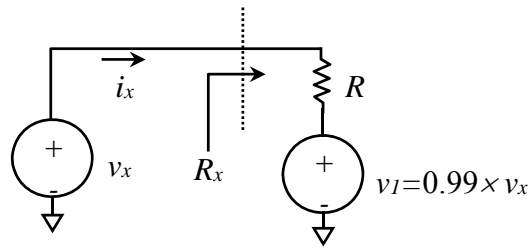

Fig. Q5a
- Q5.** (a) Derive  $R_x$  in the circuit shown in Fig. Q5a. (Note that  $v_I$  is a voltage dependent voltage source and  $R_x = v_x / i_x$ .)